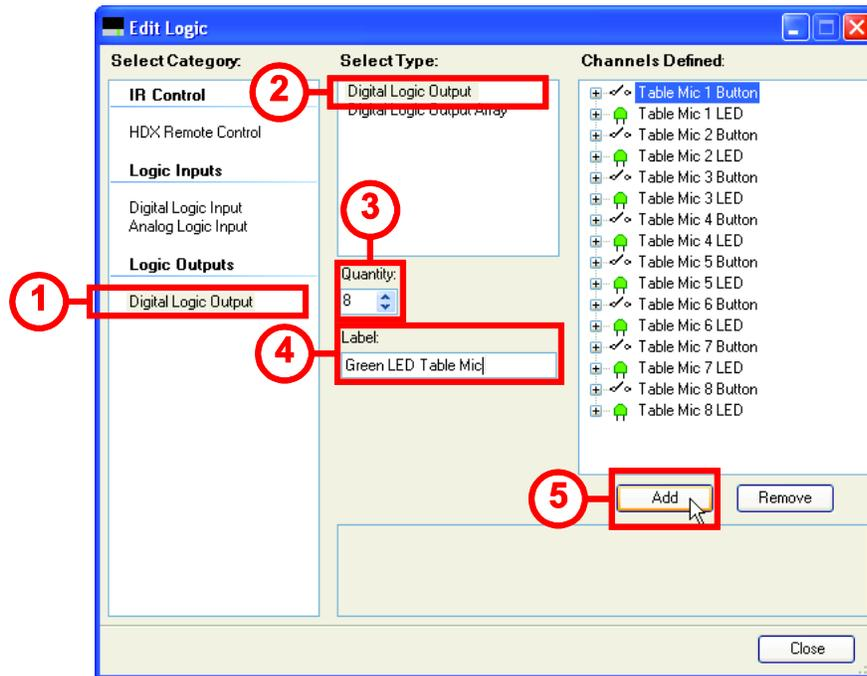
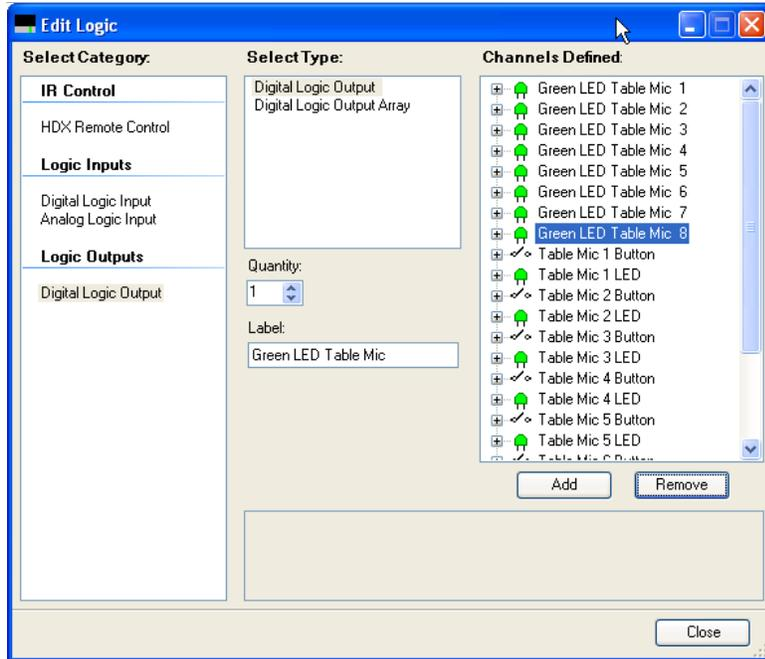

Figure 8. Adding the logic outputs for the green LEDs
Figure 9. Resulting logic definitions after the green LED logic outputs have been added
The logic page within SoundStructure studio makes it easy to add eight logic output pins starting with clicking the Edit Logic button. As shown in Figure 8, select Digital Logic Output (1), and then Digital Logic Output (2), adjust the quantity to 8 (3), select a meaningful label (4), and select Add (5). Clicking Add will define the new logic output pins as shown in Figure 9.